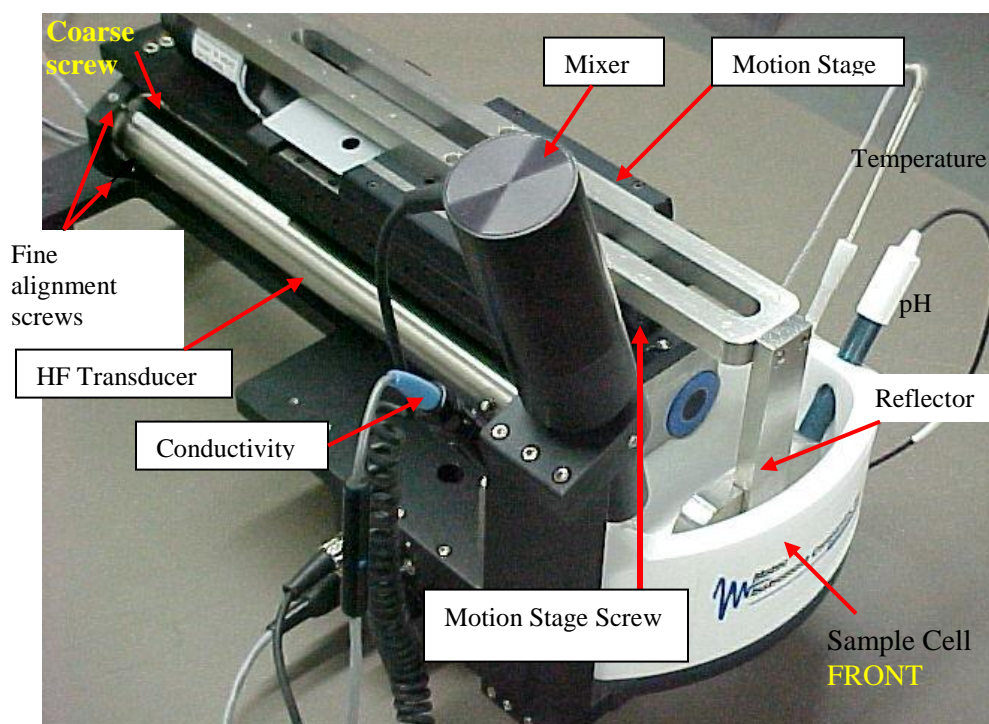

Fig. V.2.
9. The next steps allow you to align the motion stage relative to the transducers. Use Fig. V.2. below as reference. Note: FRONT refers to the area near the reflectors; REAR refers to the area far from the reflectors; BOTTOM refers to the bottom of the TBP.